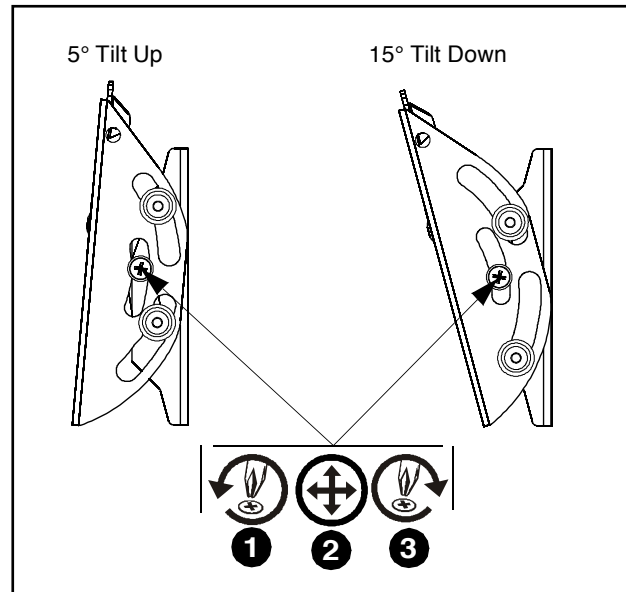

Figure 9
1. Loosen adjusting screws on each side of display (See Figure 9).